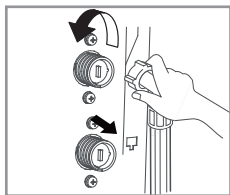

Fig.20
- Unscrew the water inlet hose. (Fig.20)